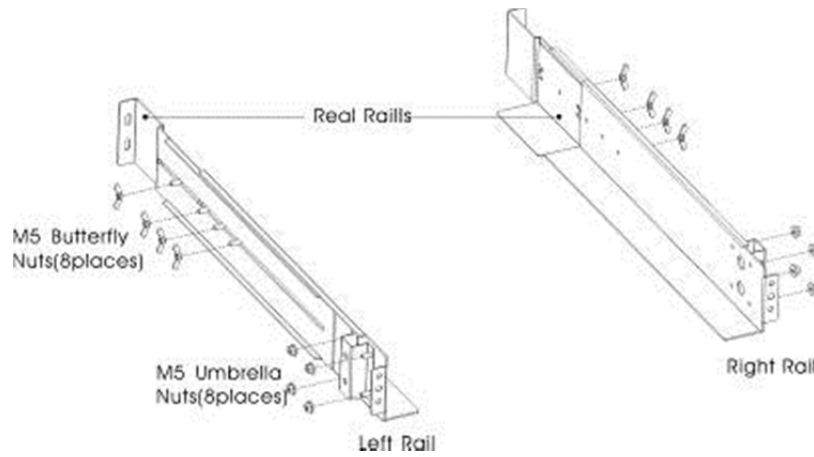

Figure1 Securing the Rails
(1) To install the rail kit
- a) Assemble the left and right rails to the rear rails as shown in Figure 1. Do not tighten the screws.
- c) Tighten four M5 Umbrella Nuts in the side of rail assembly (see Figure 1).